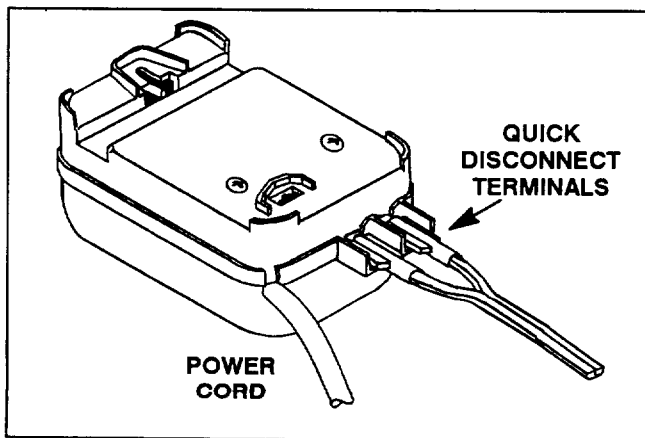

Figure 3
1. If you are replacing a power pack that has quick disconnect terminals at the bottom (Fig. 3), simply unplug the cable terminals, mount the new power pack, reconnect the cable terminals to the power pack, and plug the cord into a 120 volt ac electrical outlet. Do not use any of the remaining instructions. If you have any other power pack, proceed to step 2.